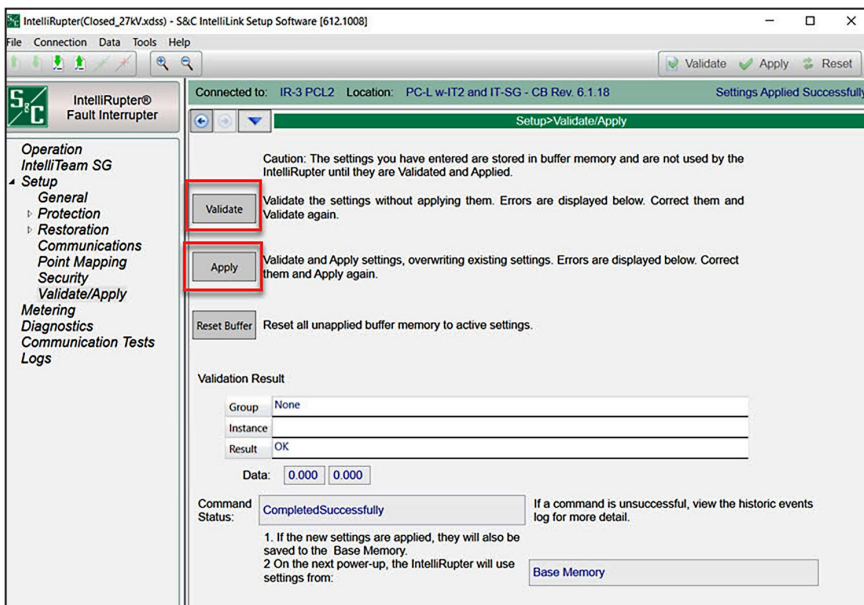

Figure 22. The *Setup>Validate/Apply* screen.
STEP 6. Go to the *Setup>Validate/Apply* screen. Validate and apply the settings to the device. See Figure 22.